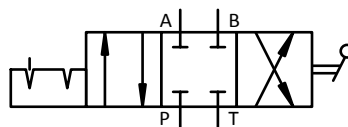

FIG 14.
D. The symbol for a 4/3 way directional control valve, mid position closed / closed centre is shown in Fig 14.